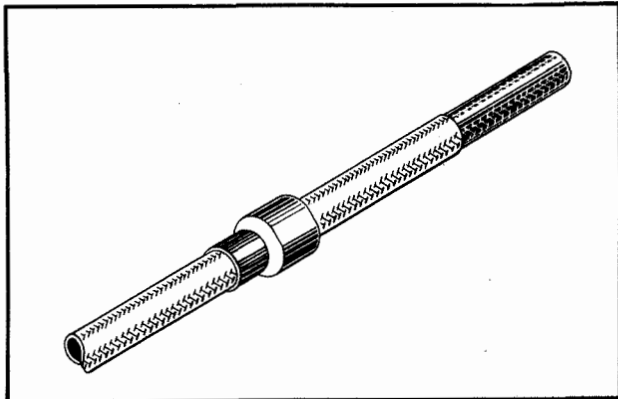

Figure 59
(2) Cut off vinyl jacket $1\frac{1}{2}$ from end of cable exposing braid, being careful not to nick braid. See Figure 59.